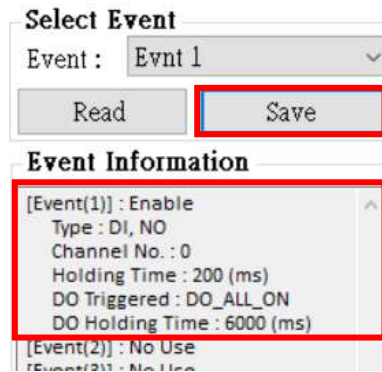

Figure 6.10.12
J. After setting, select “SAVE” to save as shown in Figure 6.10.12. Complete the list below to display the settings just made.